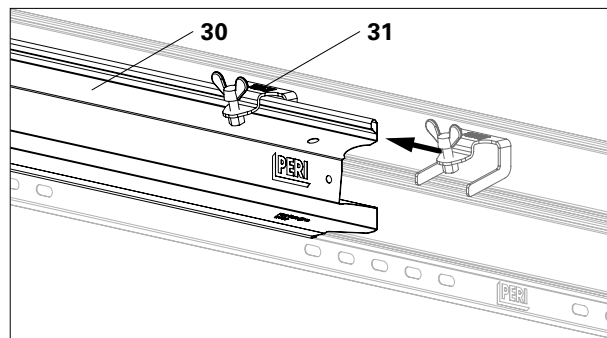

Fig. A5.06a
1. Slide the Toeboard Compensation UPY-L (31) onto the first Toeboard UPY (30). (Fig. A5.06a)
2. Slide the second Toeboard UPY (30) between the Toeboard UPY and Toeboard Compensation UPY-L in an overlapping position.